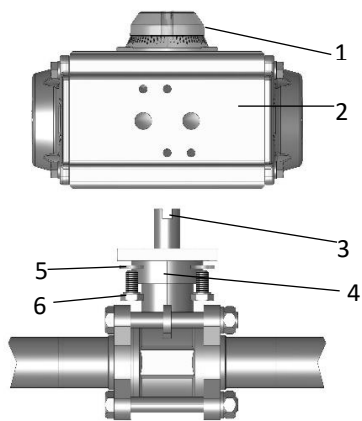

Figure 14: Pneumatic actuator - disassembly
6. Loosen and remove screws **6**, see Figure 14.
1. Ensure that the recess on the square **3** of the ball valve corresponds to the marking **1** of the position indicator, if necessary turn the square to the correct position, see Figure 14.